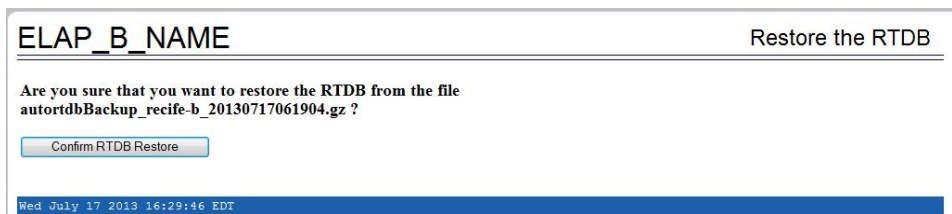

Figure 16: Restore the RTDB Confirm
8. To confirm restoring a file, click **Confirm RTDB Restore** shown in Figure 16: Restore the RTDB Confirm.